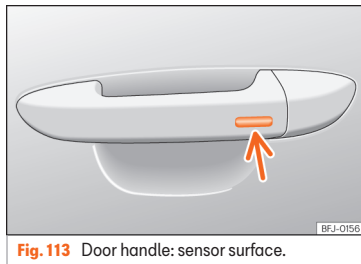

Fig. 113 Door handle: sensor surface.
- Press and hold the locking sensor surface » Fig. 113 (arrow) on the door handle to close the sunroof. If you release the sensor surface, the closing movement stops.